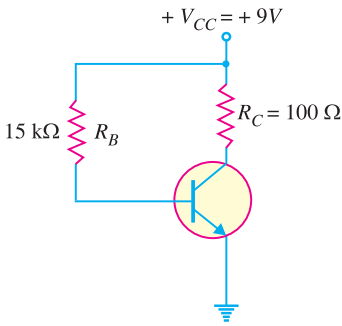

Fig. 9.54
12. The base bias circuit in Fig. 9.54 is subjected to a temperature variation from 0°C to 70°C . The β decreases by 50% at 0°C and increases by 75% at 70°C from its normal value of 110 at 25°C . What are the changes in I_C and V_{CE} over the temperature range of 0°C to 70°C ? [$I_C = 59.6\ \text{mA}$; $V_{CE} = 5.96\text{V}$]